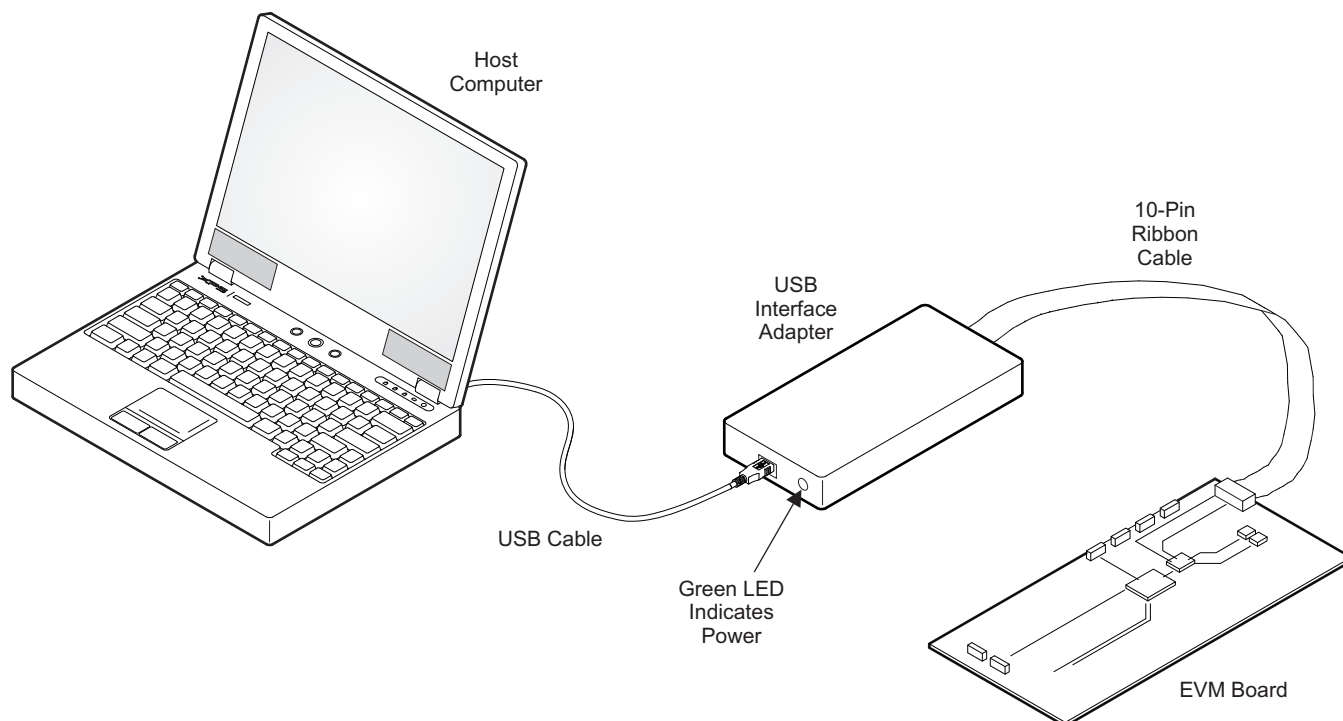

Figure 8. USB Interface Adapter Quick Connection Diagram
- Connect one end of the USB-TO-GPIO box to the PC using the USB cable and the other end to JP15 of the TPS65279V using the supplied 10-pin ribbon cable as shown in Figure 8. The connectors on the ribbon cable are keyed to prevent incorrect installation.